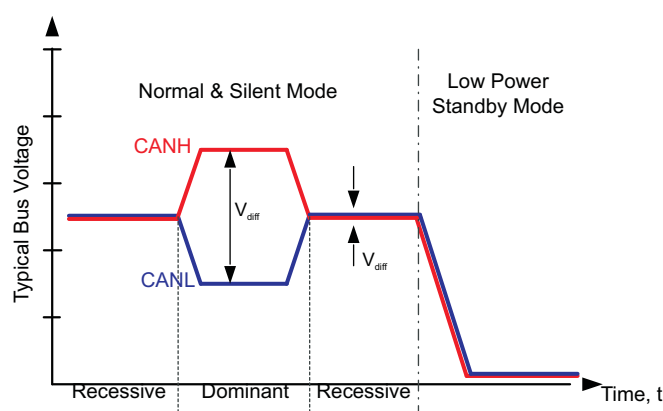
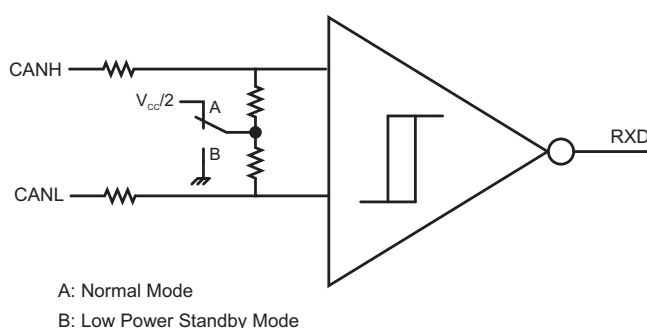

Figure 3. Bus States (Physical Bit Representation)
Figure 4. Simplified Common-Mode Bias and Receiver Implementation
This is the low-power mode of the device. Standby mode is selected by setting STB high. The CAN driver and main receiver are turned off and bidirectional CAN communication is not possible. The low-power receiver and bus monitor, both supplied via the V_{IO} supply, are enabled to allow for RXD wake-up requests via the CAN bus. The V_{CC} (5-V) supply may be turned off for additional power savings at the system level. A wake-up request is output to RXD (driven low) for any dominant bus transmissions longer than the filter time t_{BUS} . The local protocol controller (MCU) should monitor RXD for transitions and then reactivate the device to normal mode based on the wake-up request. The 5-V (V_{CC}) supply must be reactivated by the local protocol controller to resume normal mode if it has been turned off for low-power standby operation. The CAN bus pins are weakly pulled to GND, see Figure 3 and Figure 4.
- (1) H = high level, L = low level, X = irrelevant, Y = common-mode bias to GND, Z = common mode bias to $V_{CC} / 2$. See Figure 3 and Figure 4 for common mode bias information.
(2) HVDA551 and HVDA553 have internal pullup to V_{IO} on the STB pin. If the STB pin is open, the pin is pulled high and the device is in standby mode.
Both of the supply pins have undervoltage detection, which places the device in forced standby mode to protect the bus during an undervoltage event on either the V_{CC} or V_{IO} supply pins. If V_{IO} is undervoltage, the RXD pin is forced to the high-impedance state and the device does not pass any wake-up signals from the bus to the RXD pin. Because the device is placed into forced standby mode, the CAN bus pins have a common-mode bias to ground, protecting the CAN network; see Figure 3 and Figure 4.
(1) See Figure 3 and Figure 4 for common-mode bias information.